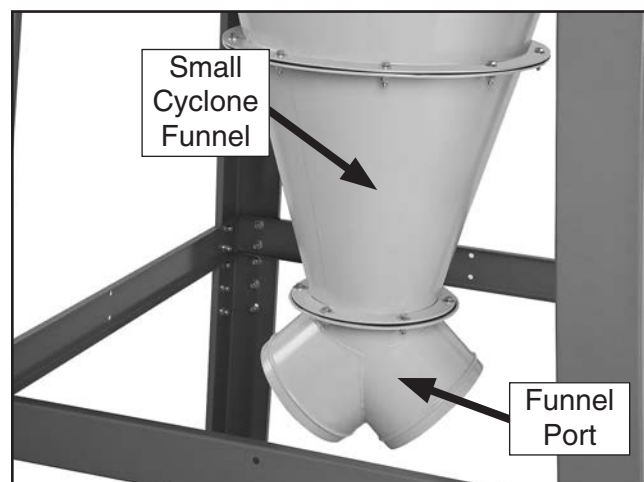

Figure 37. Small cyclone funnel and funnel port attached.
41. Attach the small cyclone funnel and funnel port with (6) ⅝"-18 x 1¼" hex bolts, (12) ⅝" flat washers, and (6) ⅝"-18 hex nuts.
42. With assistance, attach this assembly to the bottom of the large cyclone funnel with (9) ⅝"-18 x 1¼" hex bolts, (18) ⅝" flat washers, and (9) ⅝"-18 hex nuts (see **Figure 37**).